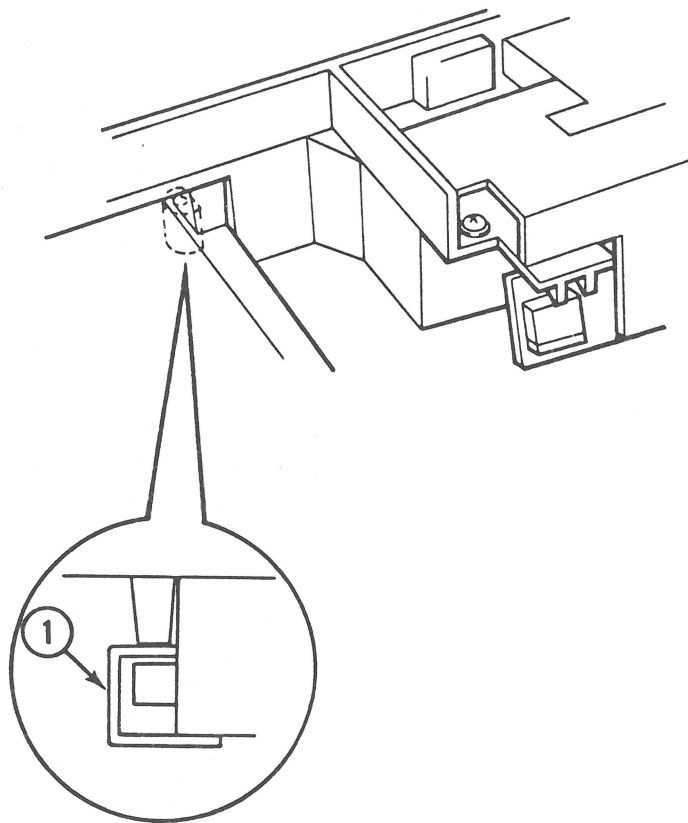

FIGURE 7
11. Gently lift up on both sides of the shaft. Be careful not to raise the optical block too high. When the shaft clears the bracket mounts, pull the whole assembly toward you (toward the right side of the unit). The left side of the scanner assembly is riding on a rail. The movement will dislodge the assembly from the rail (Figure 7, #1). Once the optical block is loose from the rail, do not try to lift it up all the way until after you do the next step.